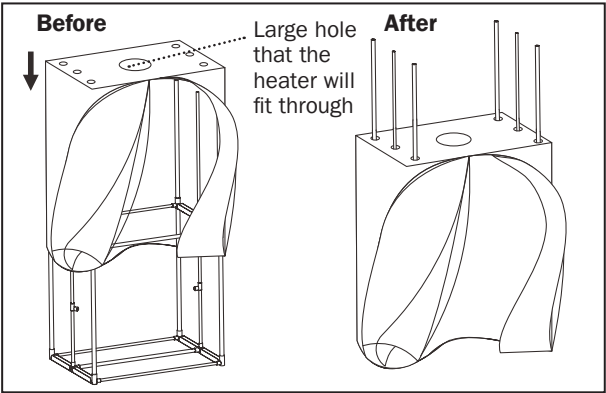

Fig. 6
7. Thread the fabric onto the frame via the 6 large poles that you have just attached to the (B) Middle Module (Fig. 6).